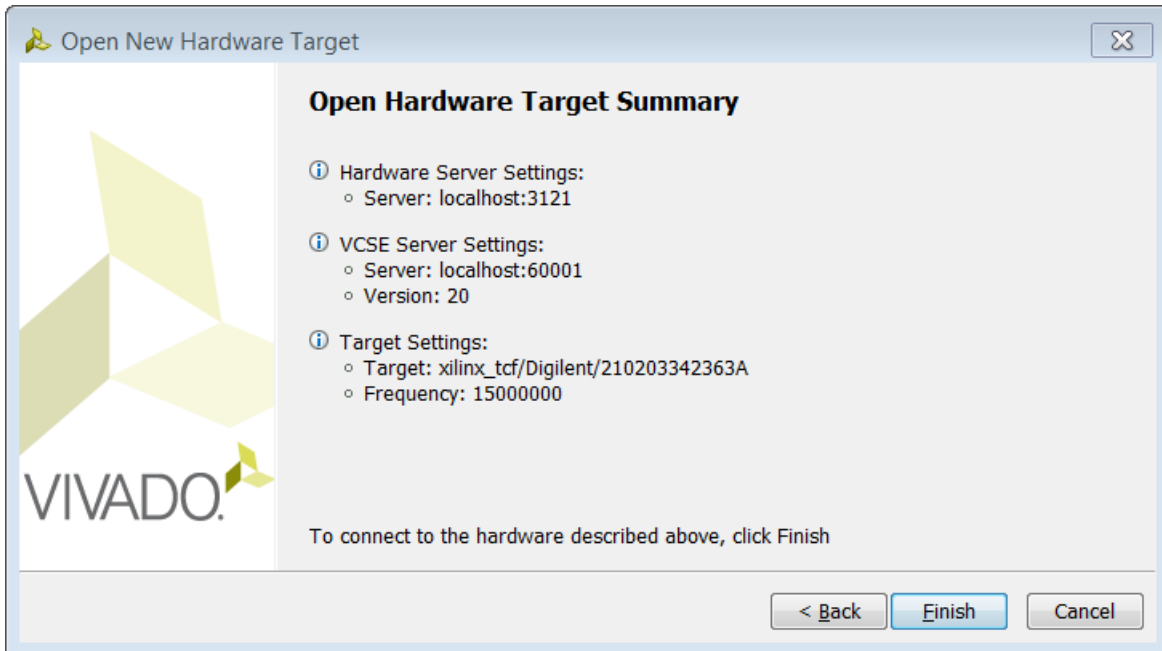

Figure 85: Open Hardware Target Summary
7. Ensure that all the settings are correct on the Open Hardware Target Summary dialog box (FIGURE 85) and click **Finish**.